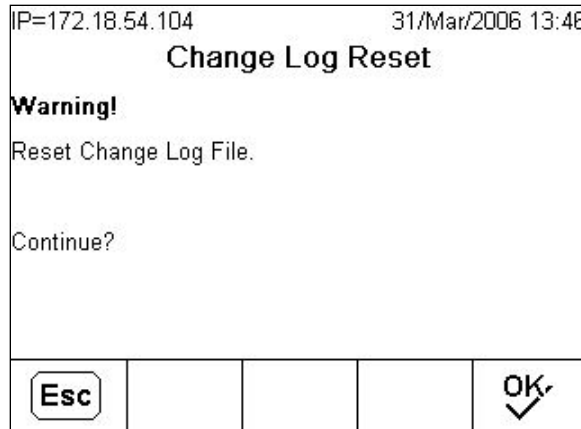

Figure C-33: Change Log Reset Screen
2. Press the RESET soffkey  to reset the log file. A warning screen (Figure C-33) displays that asks for verification. All Change Log entries are deleted when the log is reset. Press the ESCAPE soffkey **[Esc]** to cancel the operation, or the OK soffkey  to confirm it.
2. Press the RESET softkey to reset the log file. A warning screen similar to the one shown in Figure C-33 displays, asking for verification. Press the OK softkey to continue. A status message displays verifying that the reset was successful. To return to the configuration screen without performing the reset, press the ESCAPE softkey .